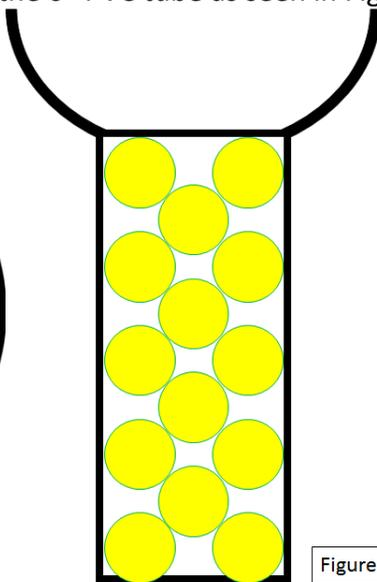

Figure 2
- f. To create a funnel, the bottom of a large bowl was cut out and the bowl was then glued to the top of the 6" PVC tube as seen in Figure 2 below.